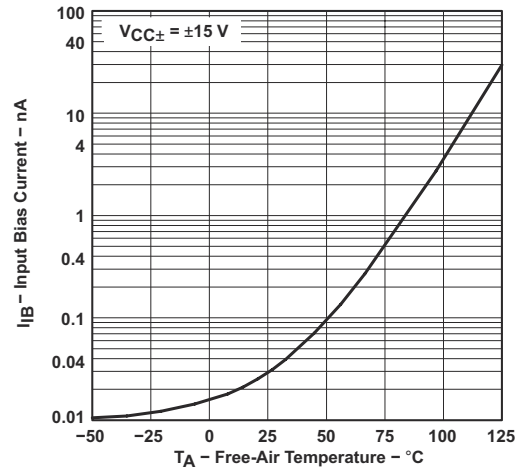

FIG 6-12. Input Bias Current vs Free-Air Temperature
- (1) All characteristics are measured under open-loop conditions with zero common-mode input voltage unless otherwise specified. Full range for T_A is 0°C to 70°C for TL06xC, TL06xAC, and TL06xBC and -40°C to 85°C for TL06xI.
- (2) Input bias currents of an FET-input operational amplifier are normal junction reverse currents, which are temperature sensitive, as shown in Figure 6-12. Pulse techniques are used to maintain the junction temperature as close to the ambient temperature as possible.
- (3) Specified by design and characterization; not production tested.
- (1) All characteristics are measured under open-loop conditions with zero common-mode input voltage, unless otherwise specified. Full range for T_A is 0°C to 70°C for TL06xC, TL06xAC, and TL06xBC and -40°C to 85°C for TL06xI.
- (3) Assured by design and characterization; not production tested.
(1) This parameter is not production tested.
(2) All characteristics are measured under open-loop conditions, with zero common-mode voltage, unless otherwise specified.
(3) Input bias currents of an FET-input operational amplifier are normal junction reverse currents, which are temperature sensitive, as shown in Figure 6-12. Pulse techniques are used to maintain the junction temperature as close to the ambient temperature as possible.
(4) Specified by design and characterization; not production tested.